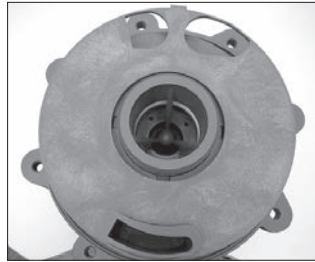

Figure 17
- Pull the separator plate (item 4) off the inner volute (item 6). See figure 17. Inspect for damage and cracks.